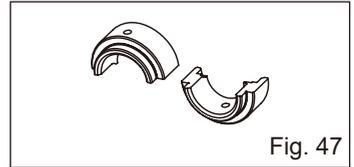

Fig. 47
2) Liners for flanging (Fig. 47)